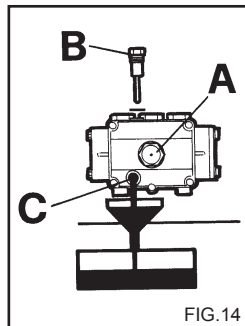

FIG.14
- 1) Unscrew the drain cap situated under the pump (fig. 14 C).
- 2) Unscrew the cap with the dipstick (fig. 14).